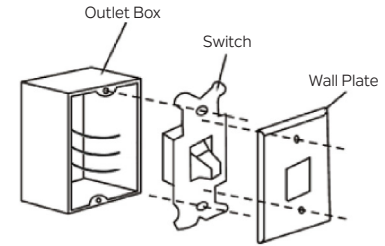

Fig. 19
**Step 1.** Remove the existing wall plate and switch from the wall outlet box. Disconnect wires from existing switch. (Fig. 19)